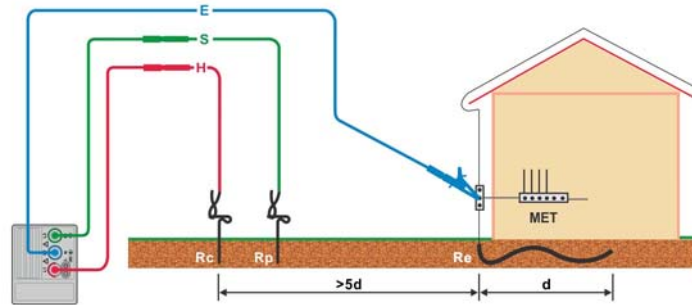

Figure 5.37: Resistance to earth, measurement of main installation earthing
- ❑ **Connect** the **E** test lead to the earth to be tested and the **H** and **S** test leads to the earth spikes (see *Figure 5.37* and *Figure 5.38*).